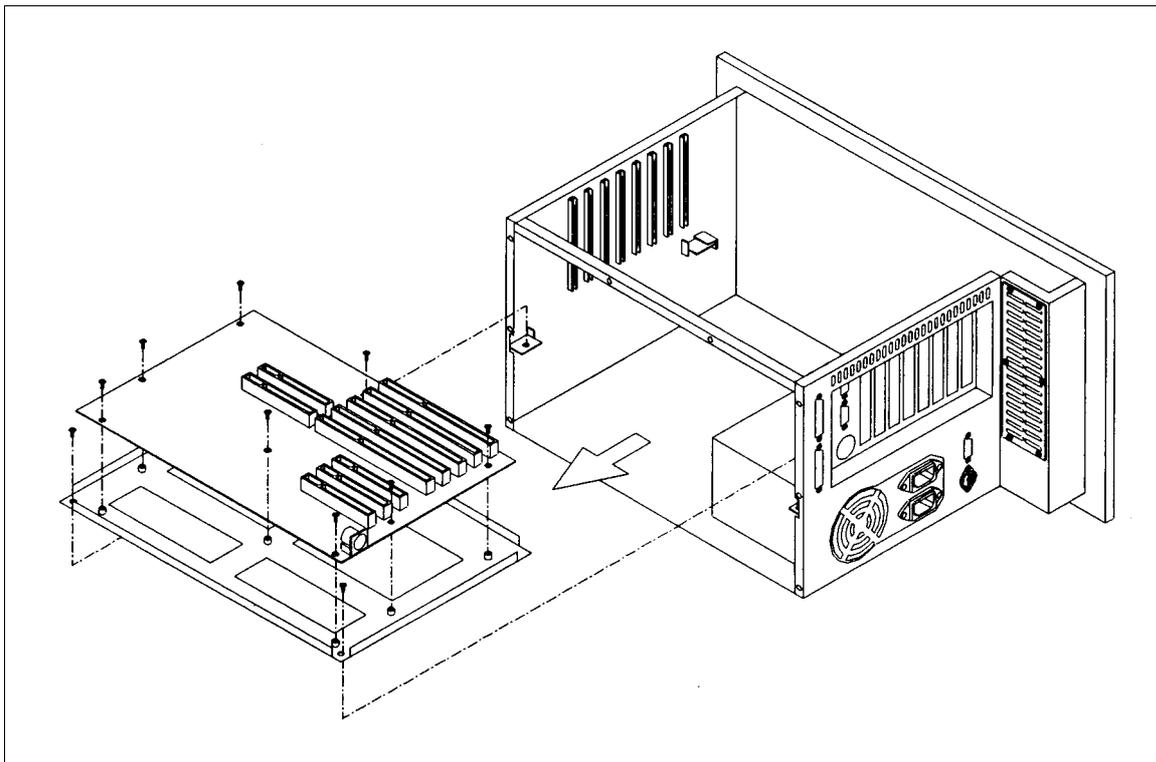

Figure 5. Detaching the backplane and the bracket
1. Remove the backplane as shown in figure 5.
4. Look at the component side of the Printed Circuit Board (PCB) connected to the system by a D15 connector. There are 5 green Light Emitting Diodes (LED) mounted on this PCB, all marked in red in figure 5.